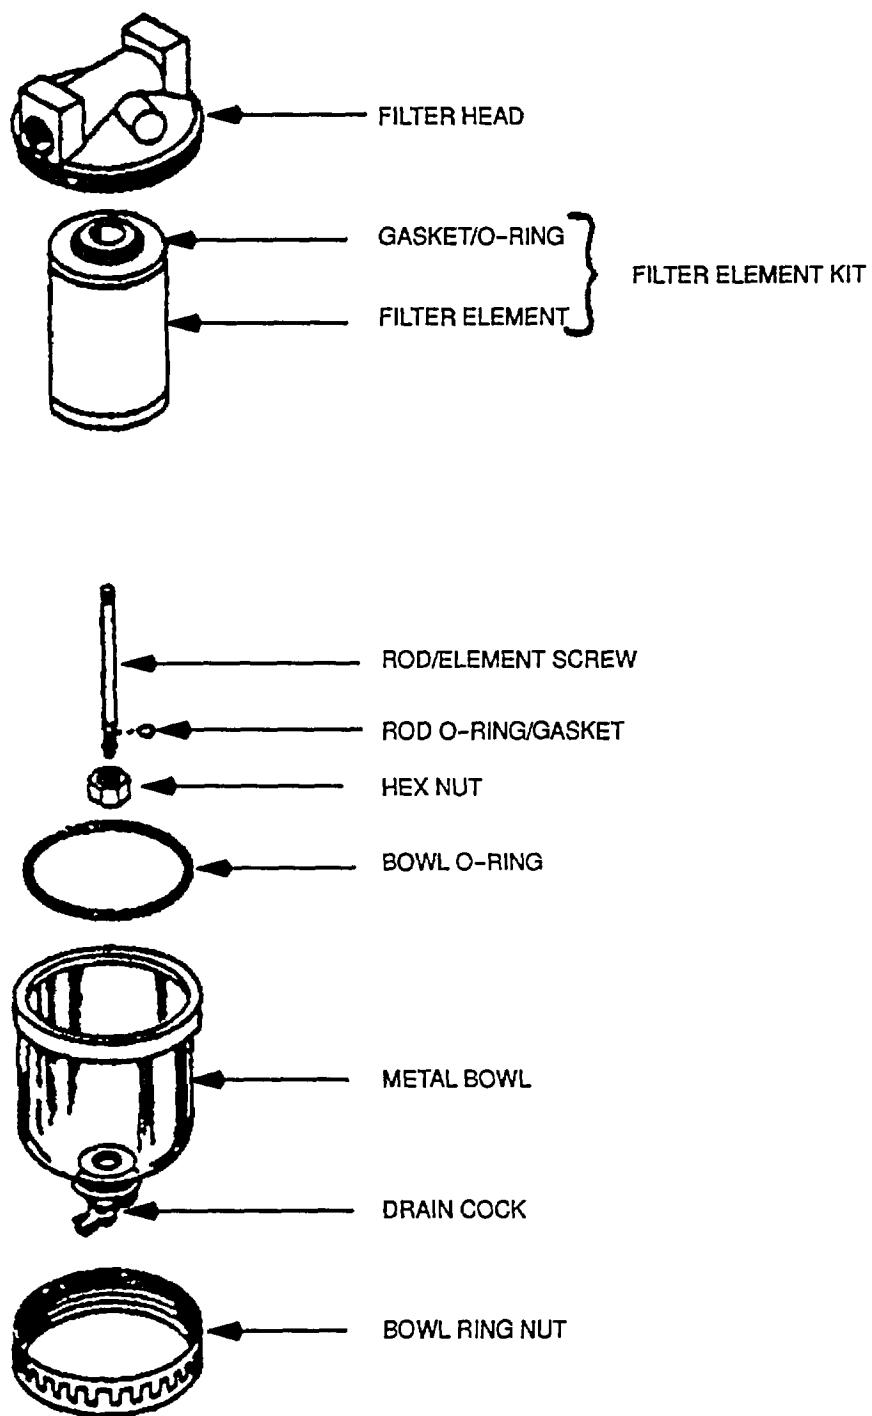

Figure 4-3. Air Filter 2, Exploded View
- c. Without using a wrench, manually unscrew bowl ring nut attaching metal bowl to filter head (Figure 4-3). Remove bowl ring nut, metal bowl and bowl O-ring.